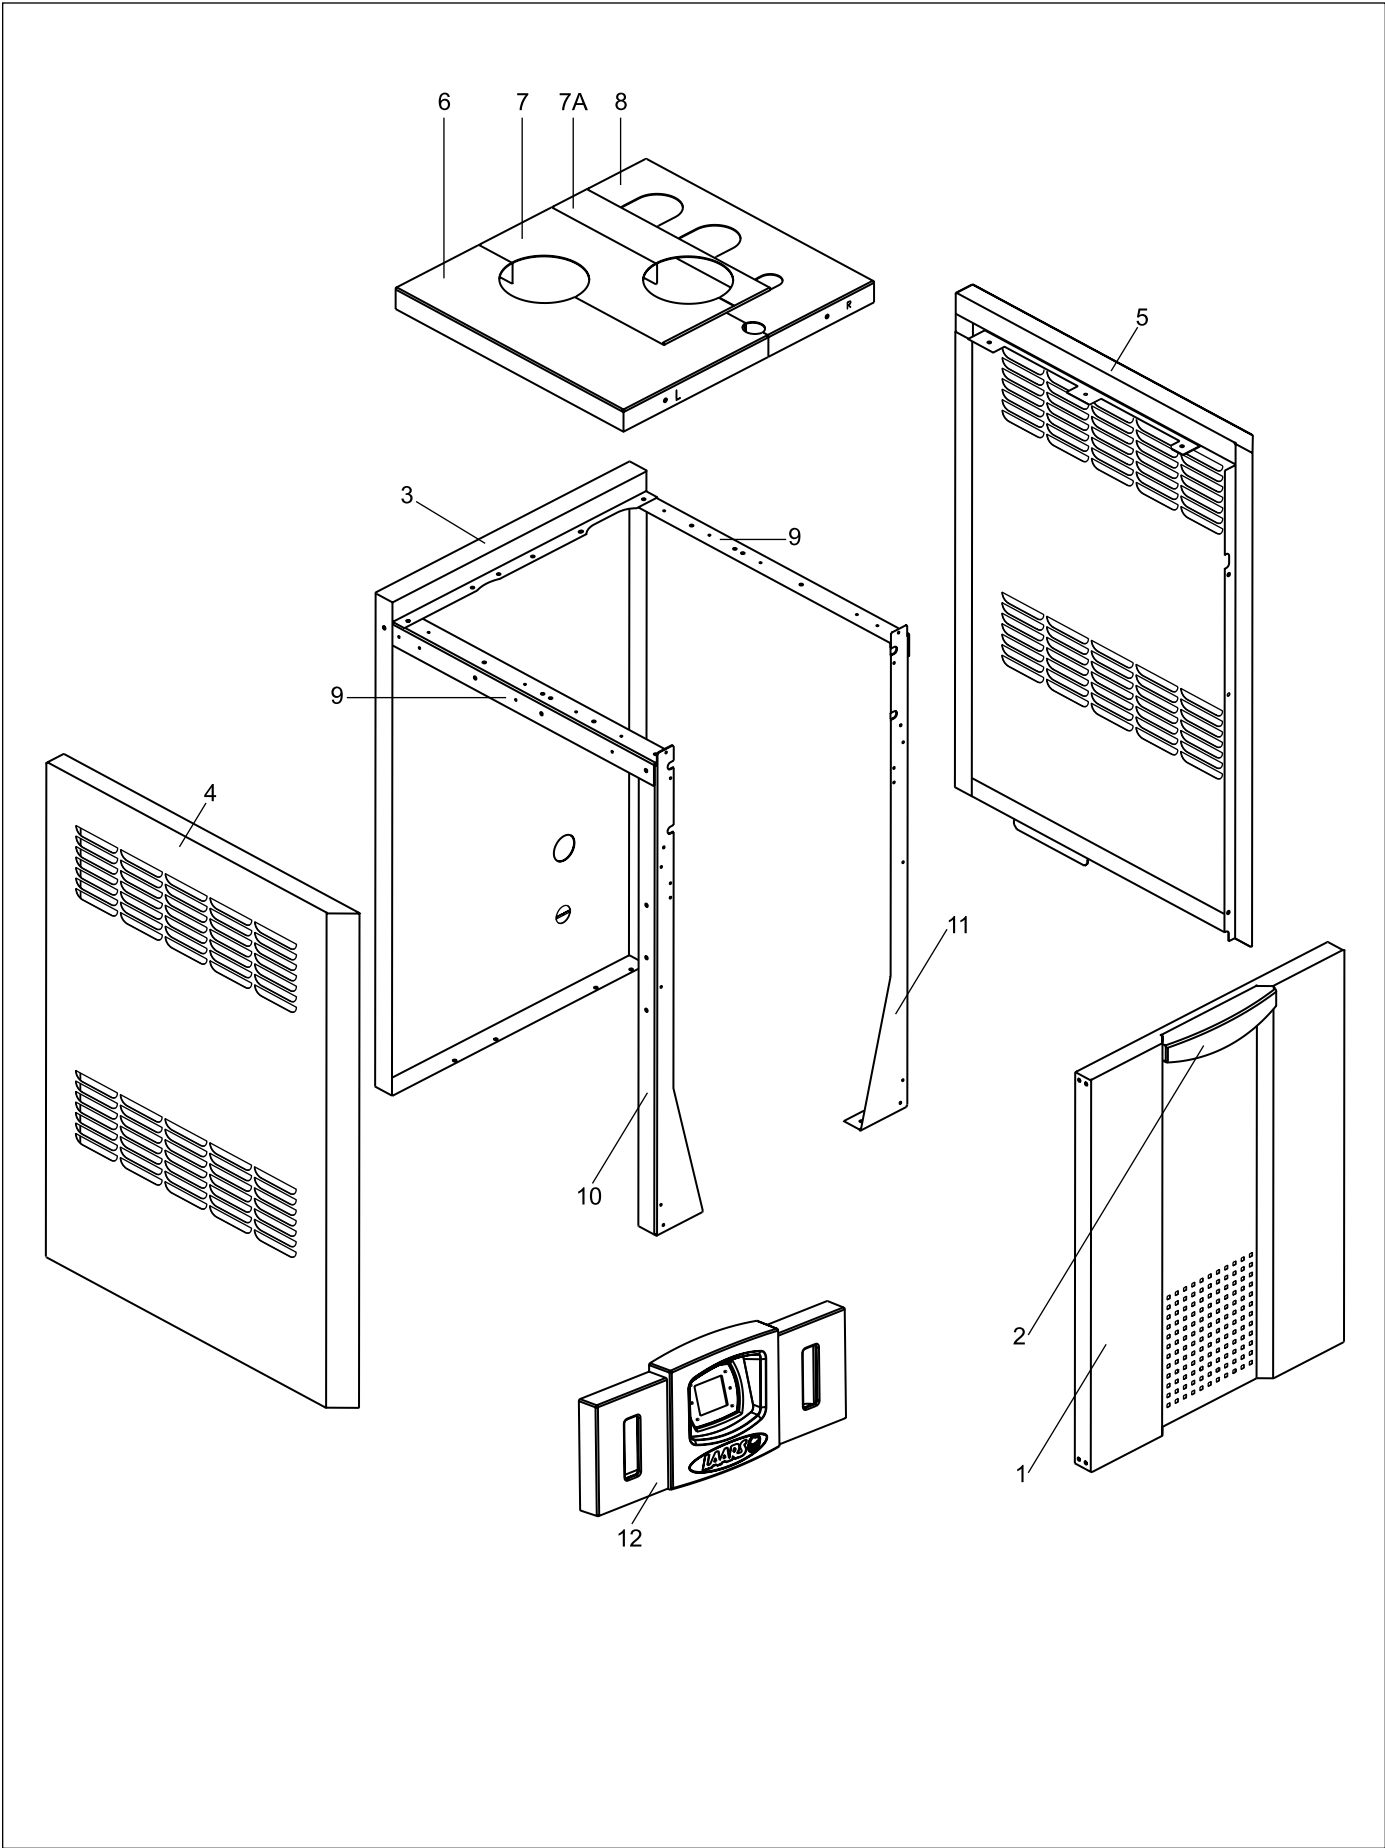

Figure 35. Jacket Components.
**13.2 Parts List****Jacket Components – See Figure 35**
Jacket Components – See Figure 35